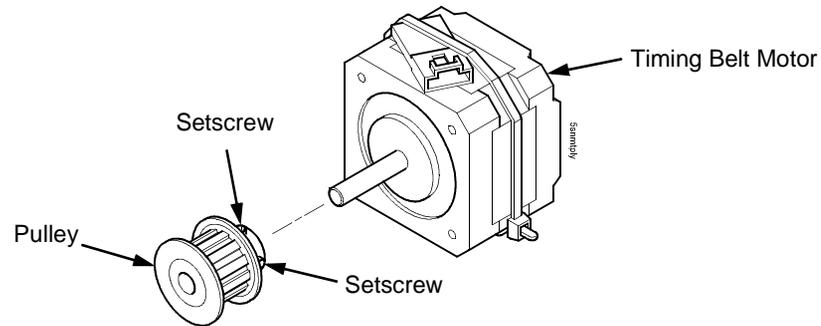

Figure 103. Removing the Timing Belt Motor Pulley
5. Loosen the two setscrews on the motor pulley and remove the pulley. Unplug the motor cable, if necessary. (Figure 103.)